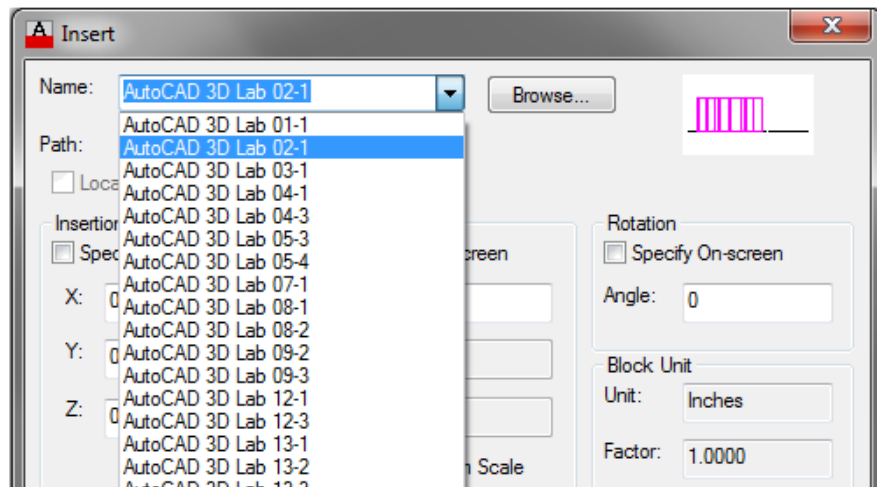

Figure Step 9
Step 9 Click the small triangle at the end of the Name box. It will pull-down the list of the block names contained in the drawing file. (Figure Step 9)